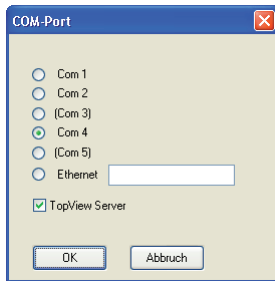

Fig. 9.1:
- (Computer with RS-485) Select "TopView Server" on the computer connected with the RS-485 bus network (see Fig. 9.1)